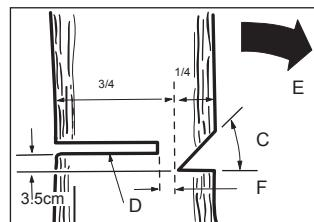

FIG. 1
Usually, felling a tree consists of two main cuts, the face cut (C Fig.1) and the undercut (D. Fig. 1), which is needed to fell the tree.
- Begin with the face cut (C) on the side of the tree facing the direction of the fall (E).
- The cut must be as deep as about $\frac{1}{4}$ of the trunk diameter (F).
- After this operation, make the cut (D) on the other side of the tree at about 3-5 cm above the height of the face cut (Fig. 1).